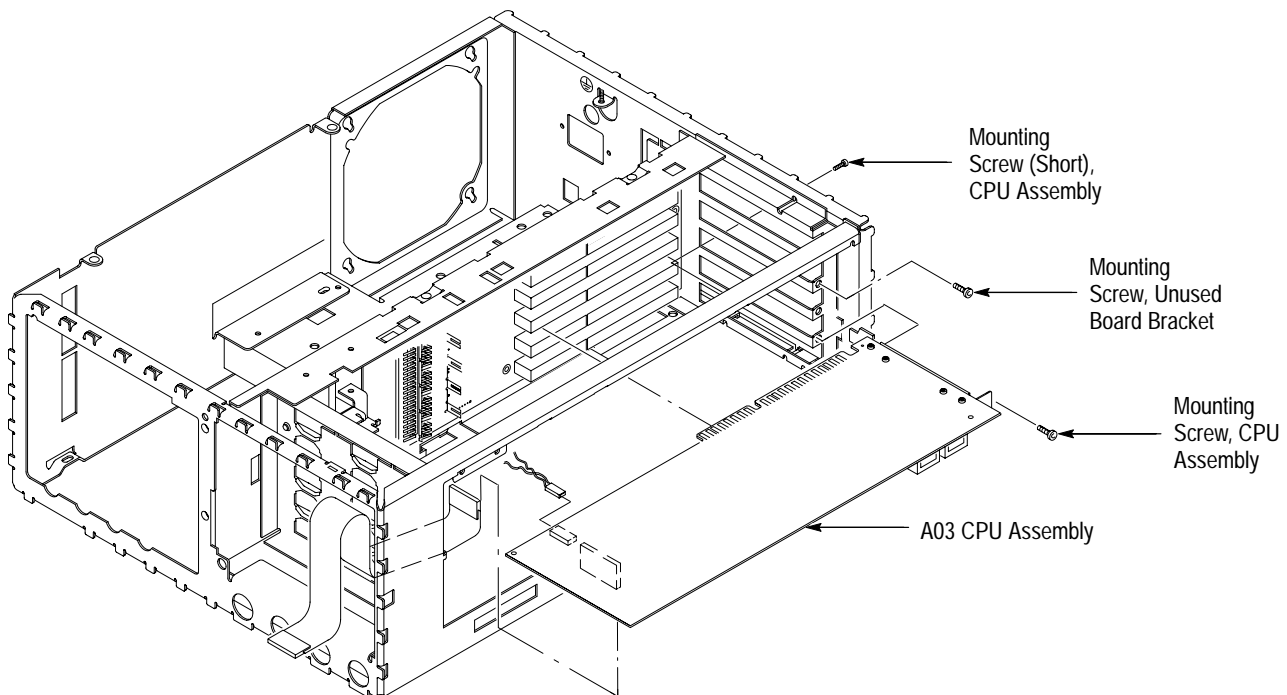

Figure 6–16: A03 CPU Removal
2. *Assemble equipment and locate modules to be removed:* Have handy a screwdriver with a size T-15 Torx® tip (Items 1 and 2). Locate the modules to be removed in the locator diagram *Internal Modules*, Figure 6–3 on page 6–19.